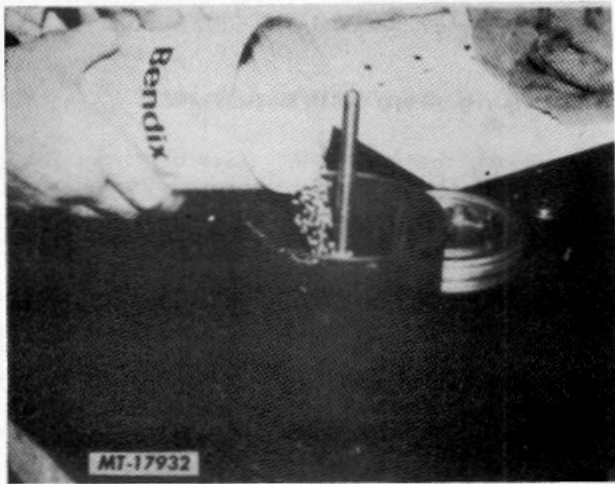

Fig. 13 Installing Desiccant
- Pour the entire package of desiccant material into the shell making sure none is lost. Handle shell carefully so that the bolt does not fall out (Fig. 13).